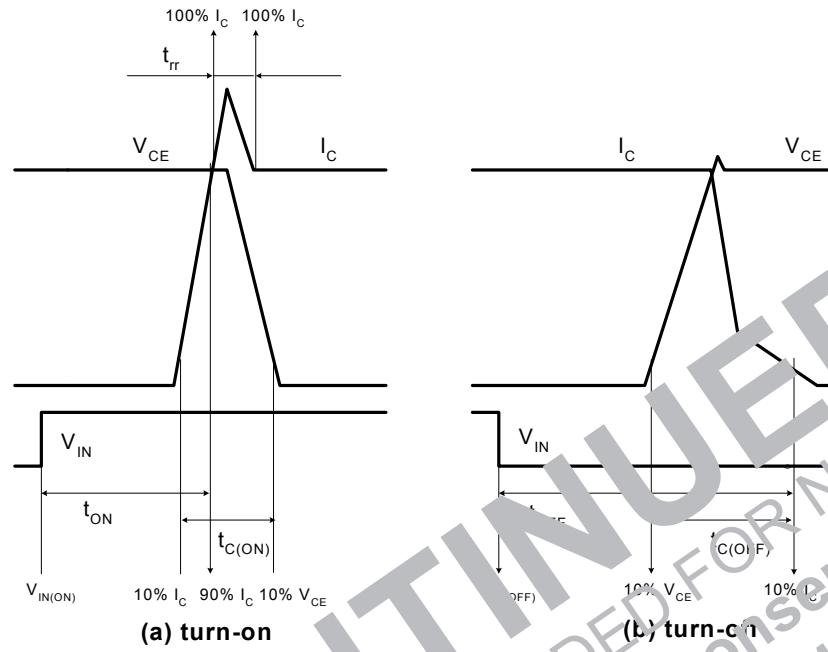

Figure 4. Switching Time Definition
3. t_{ON} and t_{OFF} include the propagation delay time of the internal drive IC. $t_{C(ON)}$ and $t_{C(OFF)}$ are switching time of IGBT itself under the given gate driving condition internally. For the detailed information, please see Figure 4.